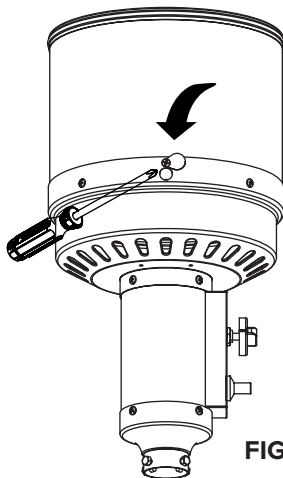

FIGURE 1
3. Open viewing hole by sliding cover to either side (Figure 1).